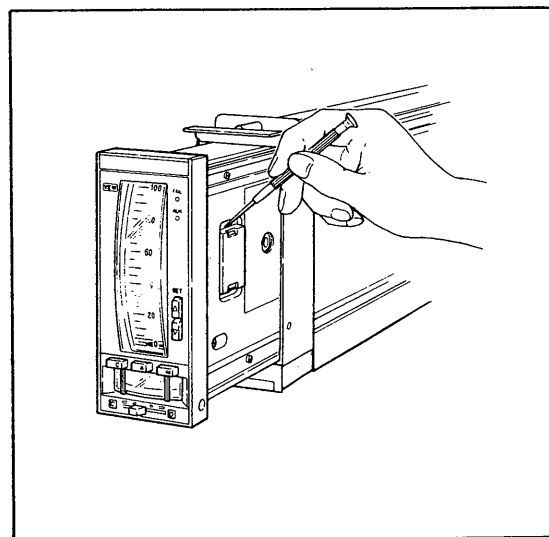

Figure 6-3-4. Removing Battery Cover.
- (1) Draw out the controller module a little from the housing, and remove the battery cover and the battery. (Figures 6-3-4 and 6-3-5.)
- (2) Install a new battery, and fit the battery cover securely.
- (3) Make sure that the ALM lamp has stopped flashing.